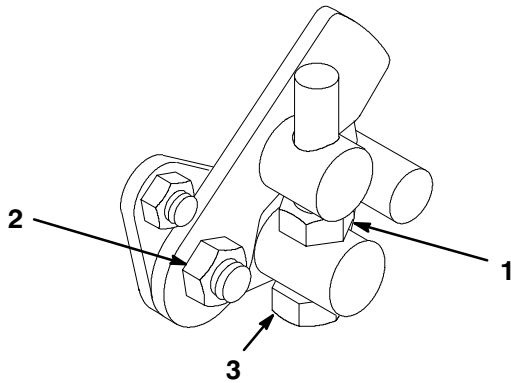

Figure 41
1. Loosen the jam nut on the trunion capscrew (Fig. 41).
4. Tighten the jam nut on the trunion capscrew and the nut on pedal pivot to lock the adjustment (Fig. 41). Check the adjustment and readjust as required.